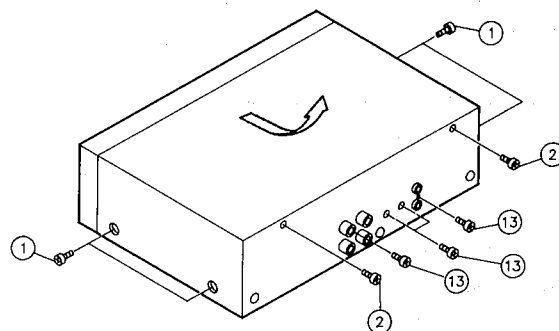
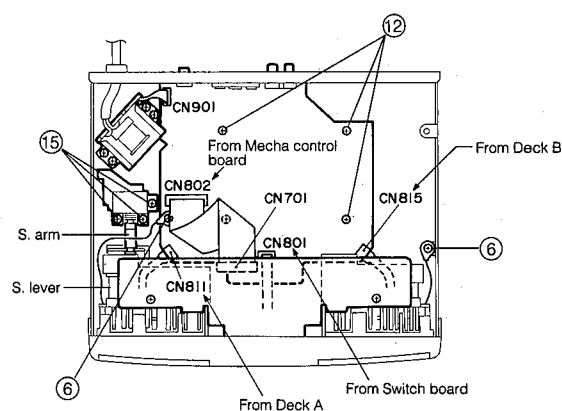

Fig. 2-1
Fig. 2-3
◆ Top cover (Fig. 2-1)
1. Remove four screws ① retaining the top cover from both side.
2. Remove two screws ① retaining the top cover from the back side.
3. To remove the top cover, slide in direction of arrow and lift away (refer to Fig. 2-1).
◆ Front panel assembly (Fig. 2-2 to Fig. 2-3)
◆ Main board assembly (see Fig. 2-3, Fig. 2-1)